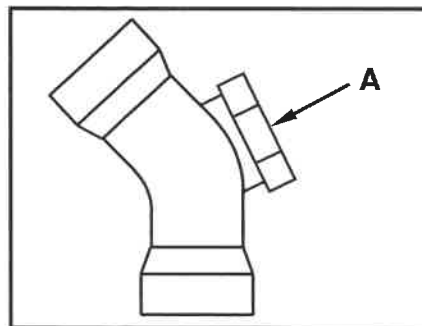

FIGURE 6.4
6.4 FIGURE 6.4 below shows a pipe fitting. Study the drawing and answer the following questions.